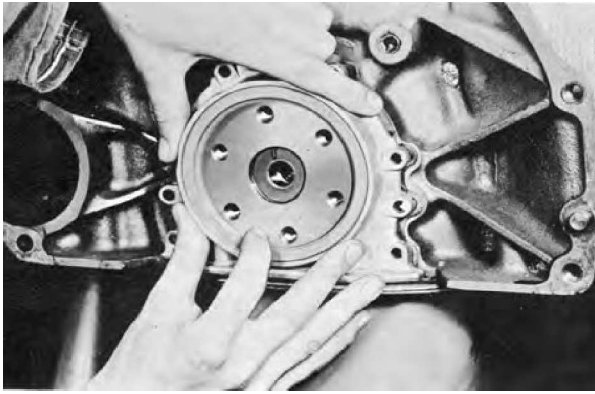

Fig. C9. Fitting the rear sealing flange (6-cyl. engine)
4. Fit the sealing flange, its sealing surface cleaned well, and a new gasket. (Oil first the sealing ring.) The sealing flange should be mounted on the crankshaft carefully, see Fig. C9. Use your finger to fit on the sealing lip.